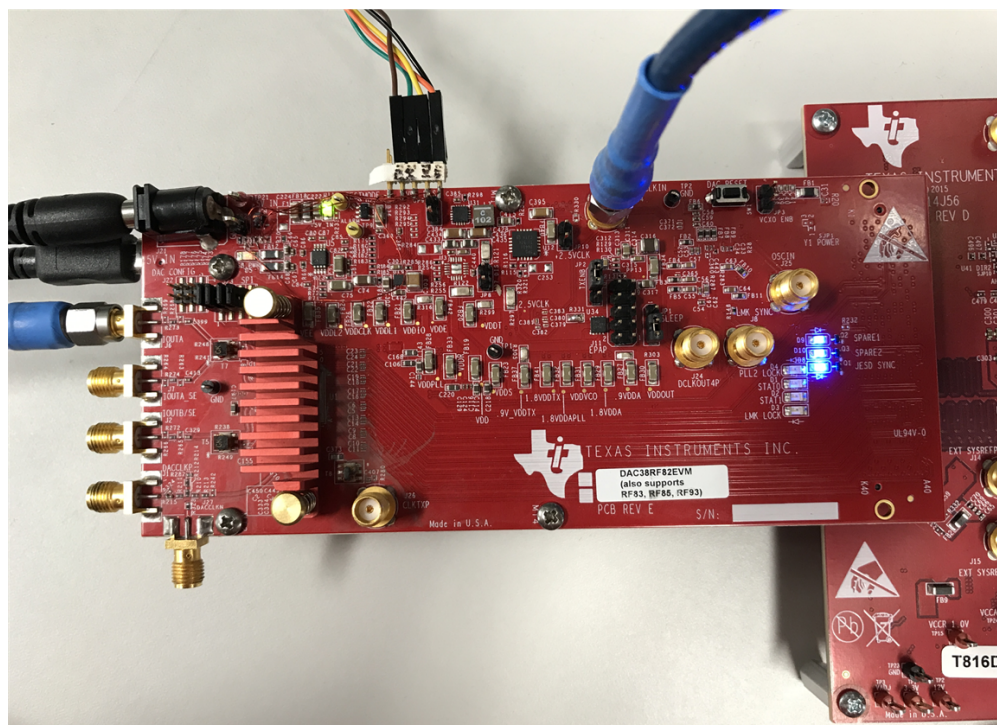

Figure 1. Hardware Setup With Soldering Modifications
8. Connect DAC38RFxx JTAG pins to PC using FTDI's USB 2.0 Hi-Speed to MPSSE cable. If using the DAC38RFxx EVM (revision E and below), some soldering modifications must be made to access the JTAG connections. One way to access the DAC38RFxx JTAG pins is to remove resistors R173-R177 and connect a 5-pin CMOS header by running wires to the resistor pads. An example of this setup is shown in Figure 1.